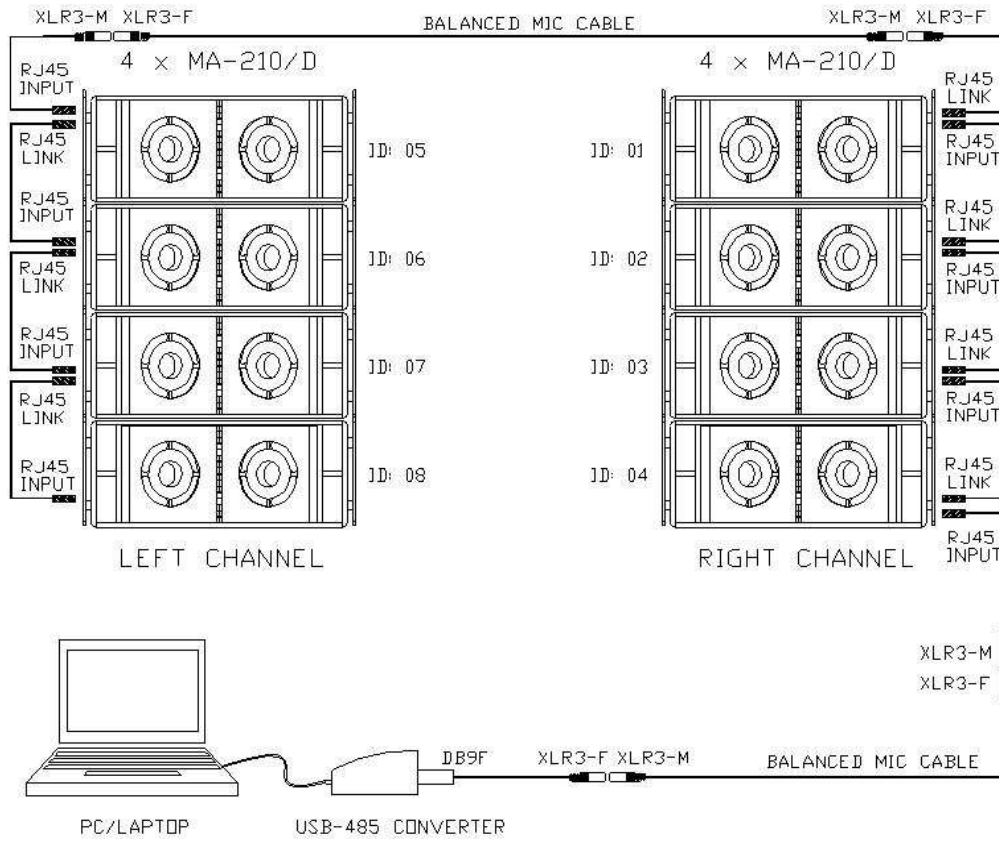

Fig. 4. Connection using XLR-RJ45 adapters
1) Daisy-chain connection: see Fig. 4 for details. The signal is brought from one cabinet to the other. In this case, the following accessories are needed: